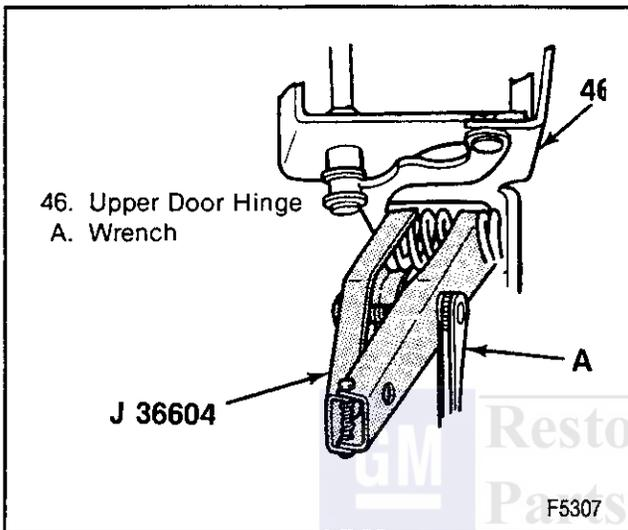

Figure 5—Hinge Spring Removal
4. Door hinge spring using J 36604 (figure 5).
- 7. Door hinge spring using J 36604 (figure 5).